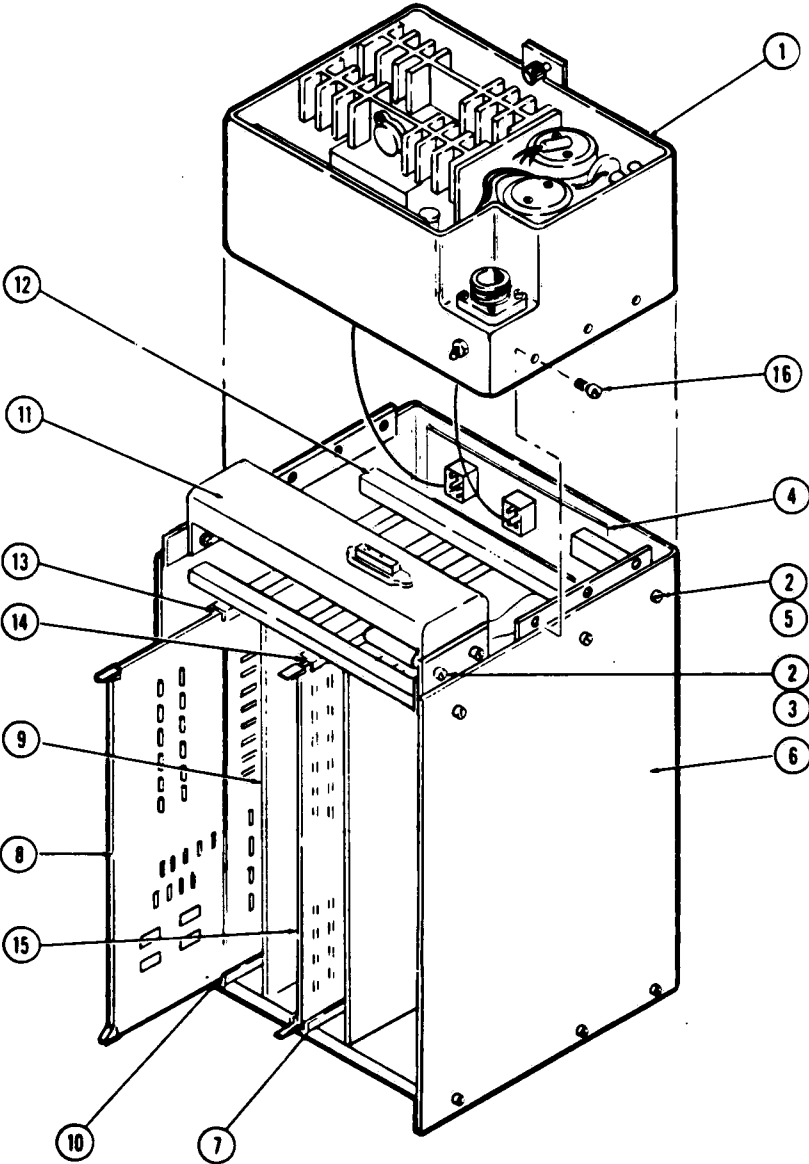

Figure 9-7. MAIN CONTROL ASSEMBLY, Eagle 2300.
- Figure 9-7. MAIN CONTROL ASSEMBLY, Eagle 2300.